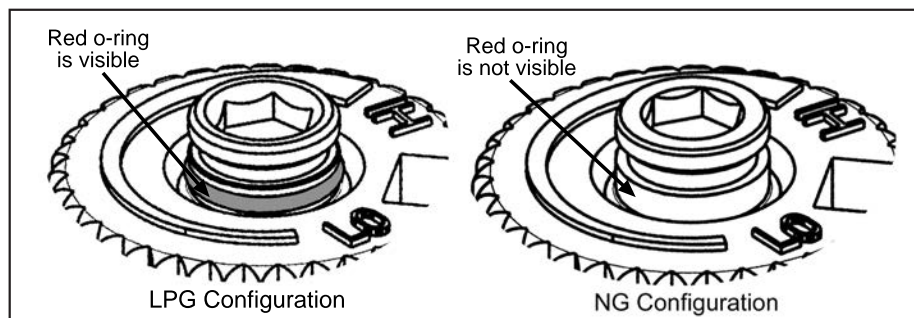

Figure 16: O-ring on valve screw.
- f) Verify that if the conversion is from NG to LPG, the screw must be re-assembled with the red o-ring visible (refer to Figure 16). If the conversion is from LPG to NG, the red o-ring of the screw must be not visible.